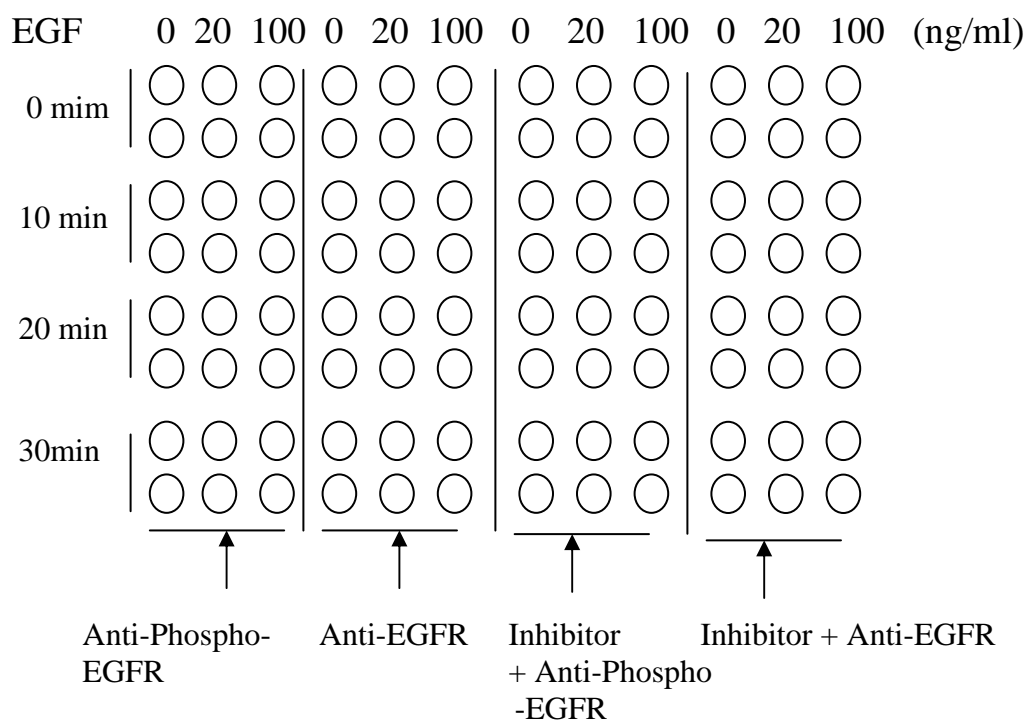

Fig. 2. Example of how to seed cells for RayBio® cell-based assay
1. Design your experiment. For example, see Fig2 and 3.